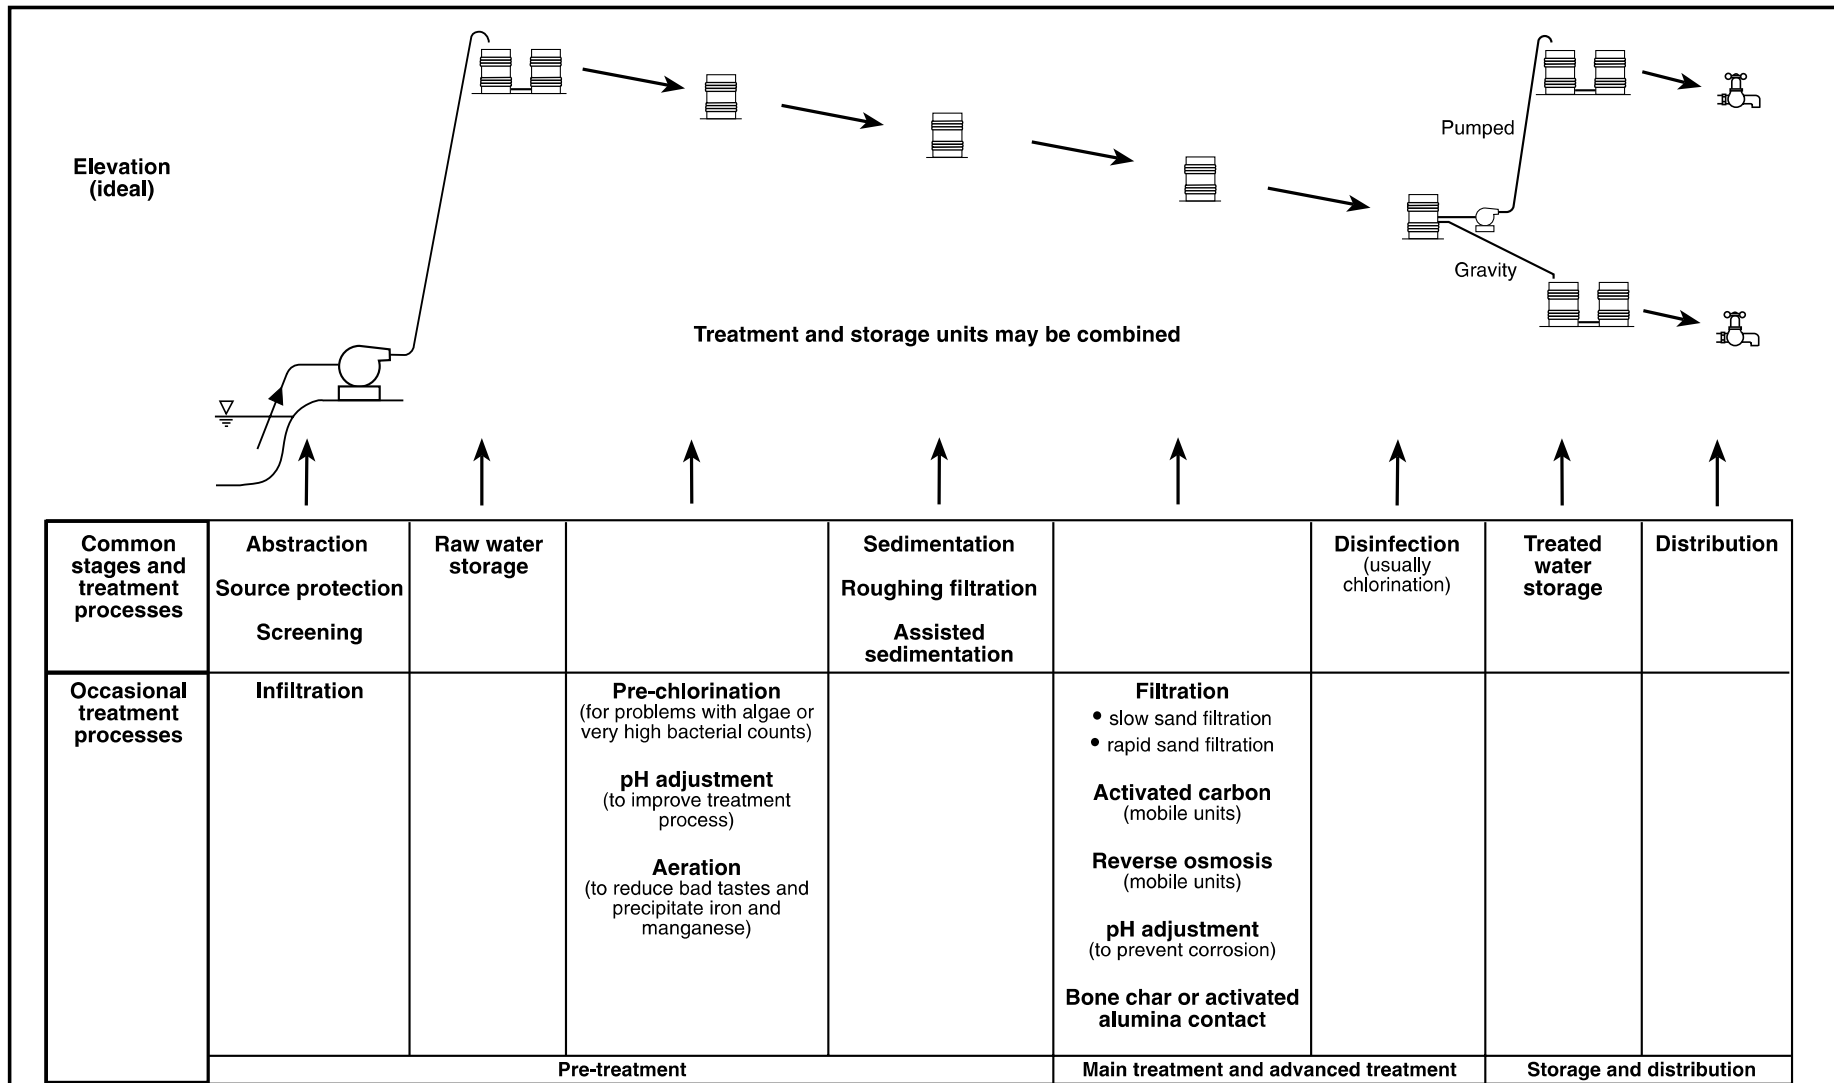

Figure 3.2 — Linkage of water treatment processes in a water supply scheme
- Figure 3.2 which links the water treatment processes in a water supply scheme, p43.